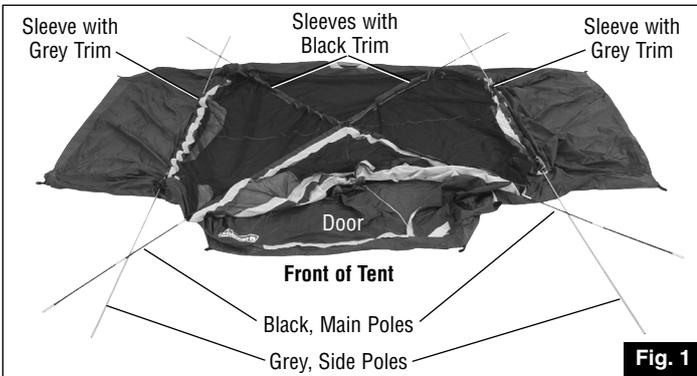

Fig. 1
3. Insert the two, long, black Main Poles through sleeves with black trim in top of tent, to form an "X" as shown. (Fig. 1)
4. Insert the two, long, grey Side Poles through sleeves with grey trim as shown. (Fig. 1)